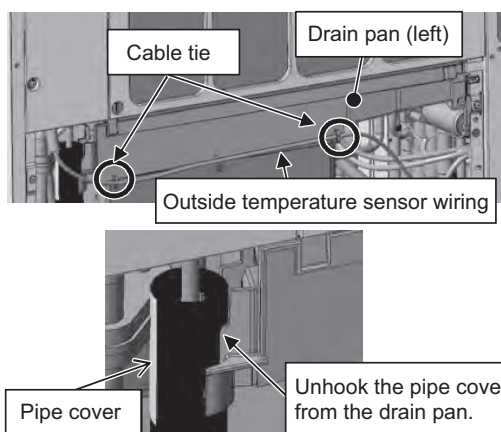

Figure 3
- (2) Remove the external temperature sensor wiring from the left drain pan by cutting the two cable ties. (See Figure 3.)